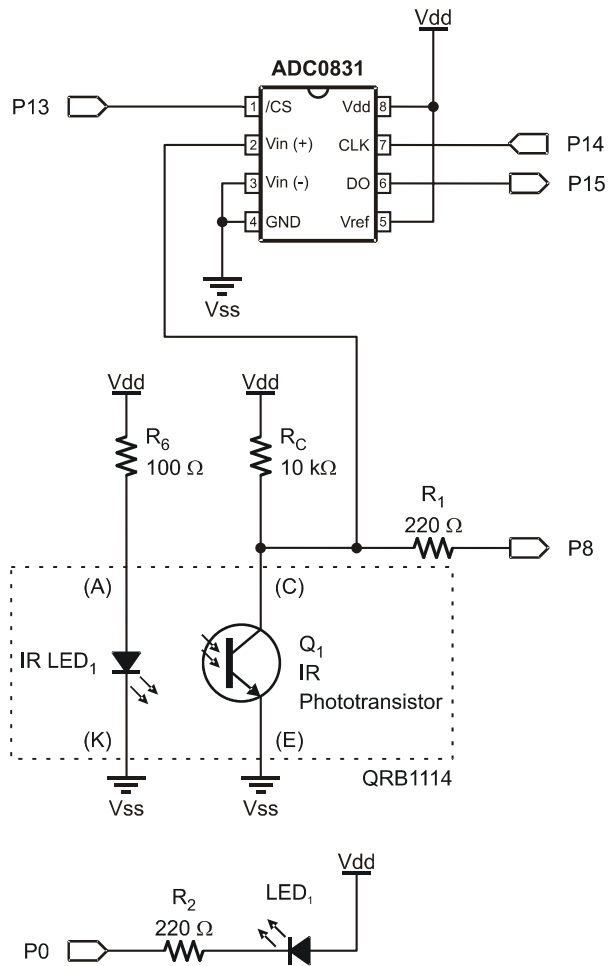
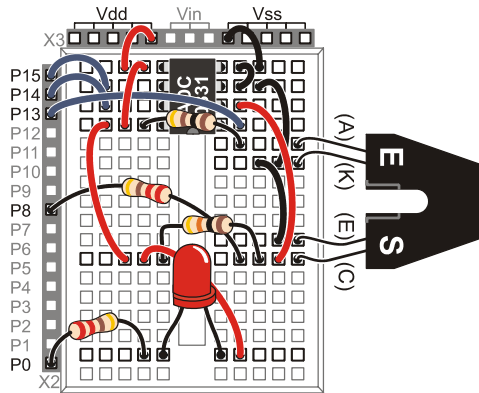

Figure 4-2
Figure 4-3
- (1) LED – Red
- ✓ Construct the circuit shown by the schematic in Figure 4-2 and the wiring diagram in Figure 4-3. Note that Q₁ and the IR LED are both inside the QRB1114. Set aside the 100 kΩ and 1 MΩ resistors for now.